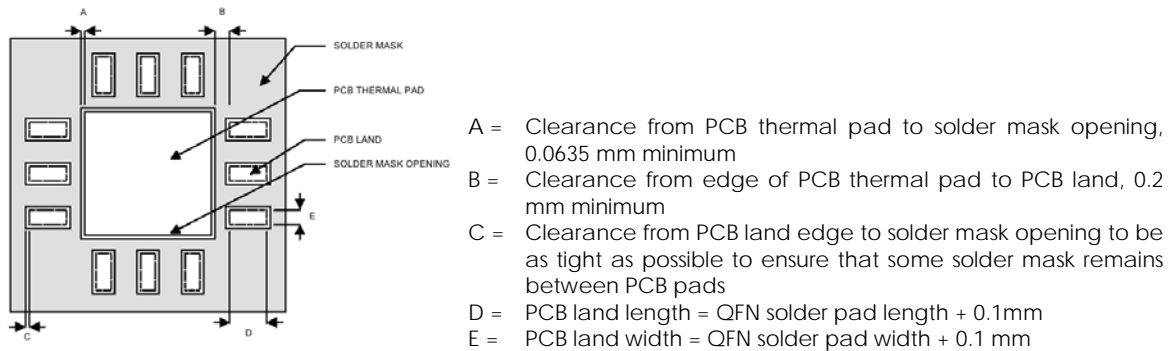

Figure 6 PCB land and solder mask recommendations
1. PCB land and solder masking recommendations are shown in Figure 6.